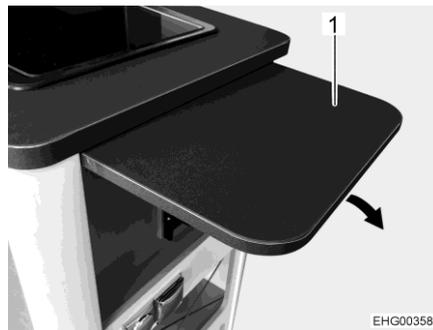
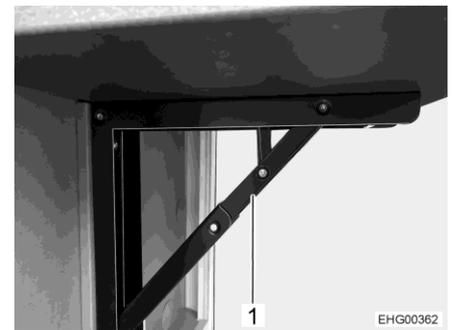

Fig. 40 Folding worktop
Fig. 41 Holder
- Fold worktop (Fig. 40,1) up until the holder (Fig. 41,1) snaps in.
- Fold holder (Fig. 41,1) in and fold worktop (Fig. 40,1) down.